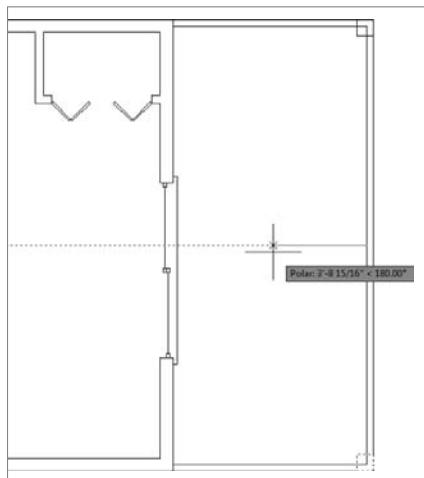

FIGURE 5.19 The first deck posts are in place.
5. Move the cursor directly to the left or right, as shown in Figure 5.19, to mirror the post; then click to execute the mirror; and then press ↴ to accept the No option for deleting the source object.